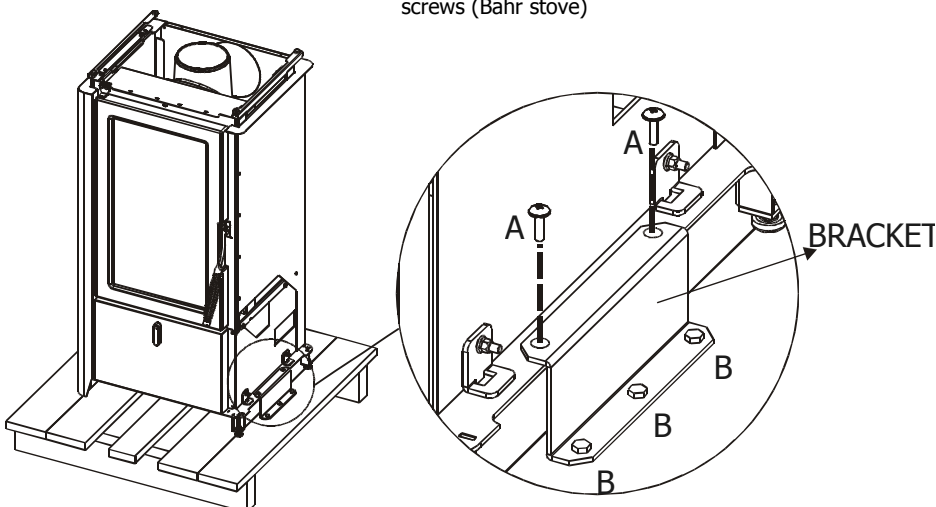

Figure 1 - Removing the packaging screws (Bahr stove)
Open the package, remove the sides by removing the three screws as indicated in para. 4.3. Once the sides have been removed, remove the two screws (A) from the bracket at the bottom right and left of the stove (fig.1).